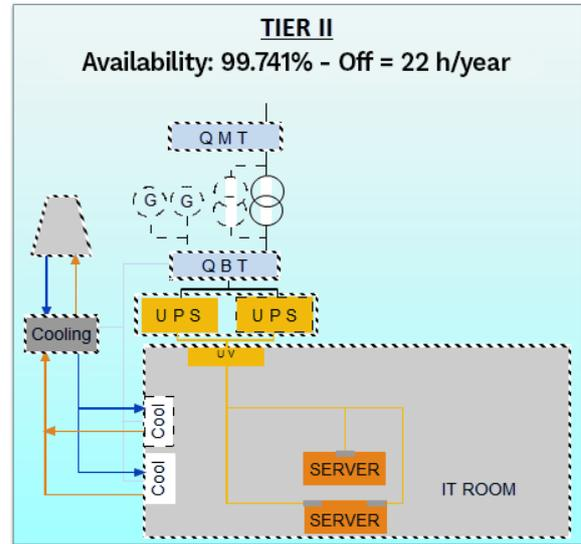

Fig. 10
**Network with redundant components (Fig. 10)**